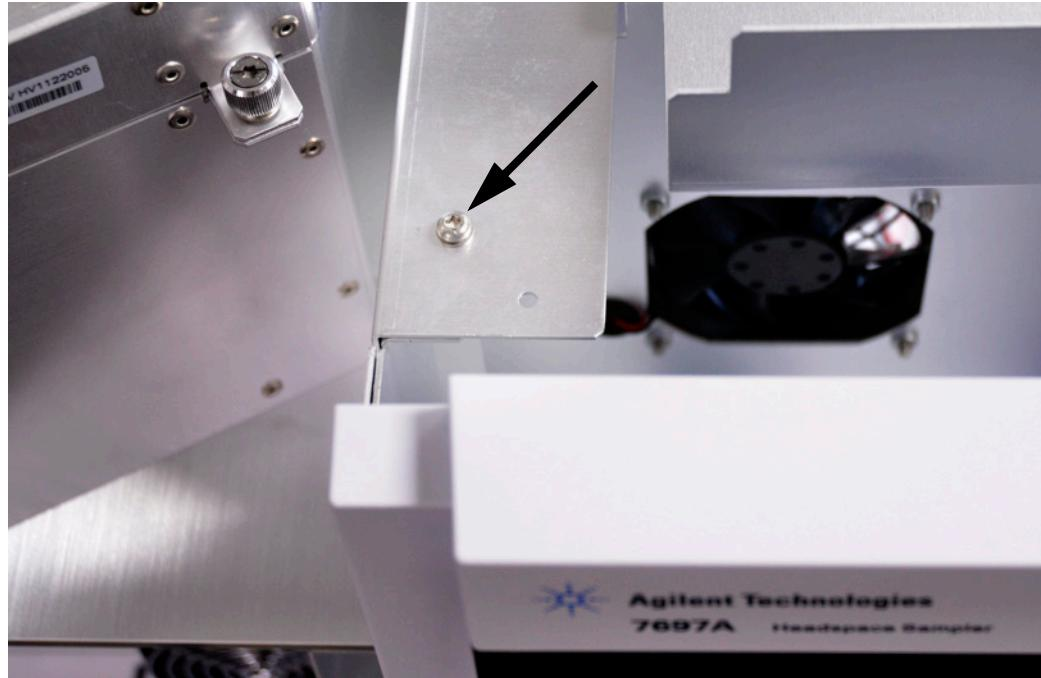

Figure 22 Remove the T-20 Torx screw from the headspace chassis bracket
- 2 Remove the T-20 Torx screw from the headspace chassis bracket found to the right of the oven assembly and behind the display panel (Figure 22). This screw will be reused in step 5.